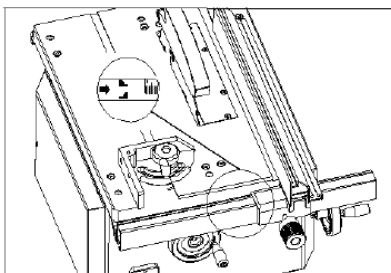

Fig.8
- 3) Secure the setting using the left hexagonal socket screw (Fig. 8). This procedure should be repeated each time the saw blade is replaced.